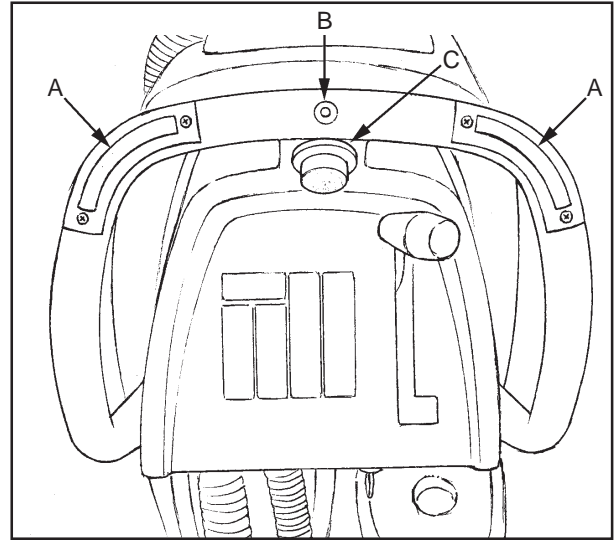

Figure 28
5. When either the left or right forward/reverse switches (figure 28, item A) are pushed in, the machine will go forward ("L" models only).
6. Control the speed of traverse by using the traverse speed control knob ("L" models only) (figure 28, item C).
8. To reverse the machine, push in the white reverse switch (figure 28 item B) and either the right or left forward/reverse switch (figure 28 item A) at the same time ("L" models only).